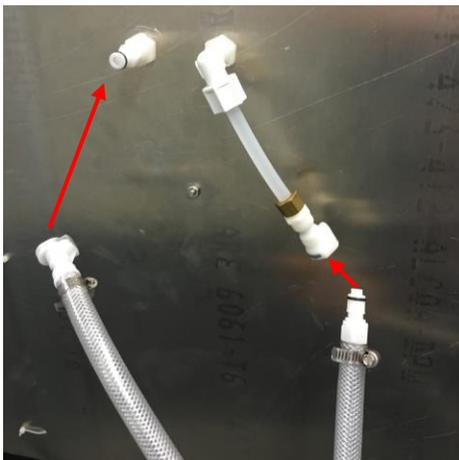

Figure 2: Chiller fittings
1. Connect the chiller quick-connect fittings to the fittings on the back of the system, as shown in Figure 2 below.